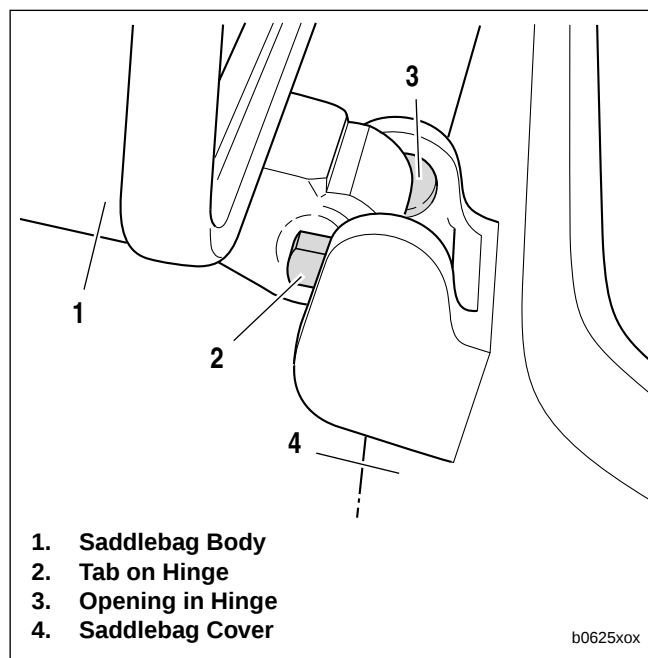

Figure 2-119. Saddlebag Cover Hinge
See Figure 2-119. Two different sizes of saddlebag covers are available. Exchange covers by opening saddlebag cover to 90°. Opening (3) in saddlebag cover hinge mates with corresponding tab (2) on saddlebag body hinge.